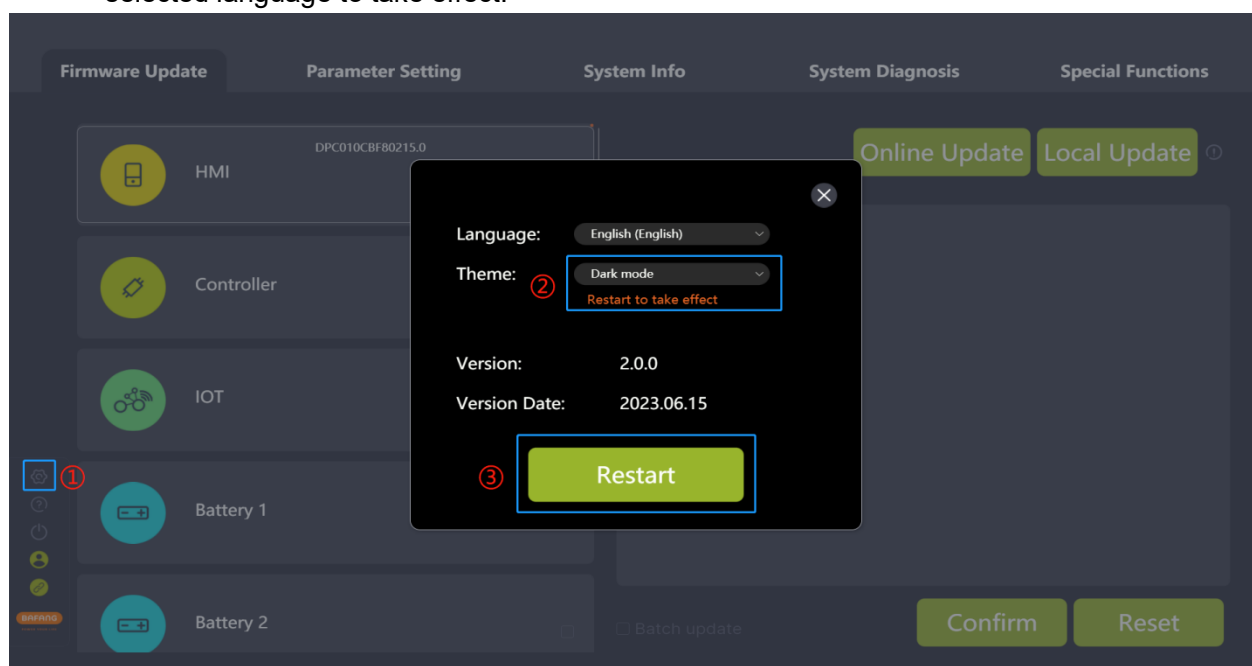

Fig. 9-4 Theme
- (1) Select the “Settings” icon.
- (2) Select the desired theme in the drop-down list (Fig.9-4).
- (3) Click the “Confirm” icon.
- (4) Click the “Restart” icon. Restart the software and the selected theme will take effect.